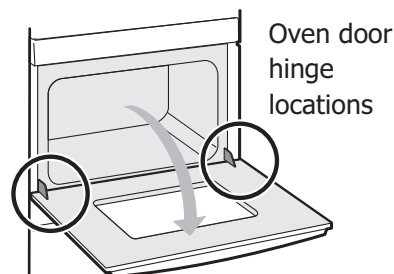

Figure 47: Door hinge location
1. Open oven door completely horizontal with floor (See Figure 47).
3. Fully open the oven door, horizontal with floor See Figure 47).